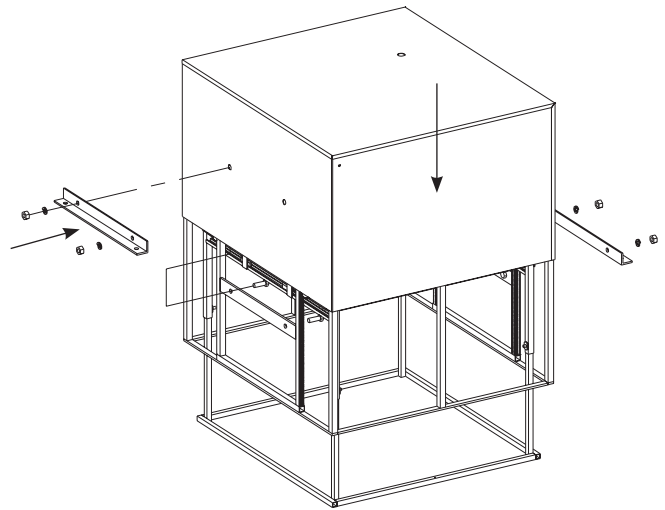

Figure 2
4. Attach plenum cover to Da-Lift and install unit into final position. See Figure 2.